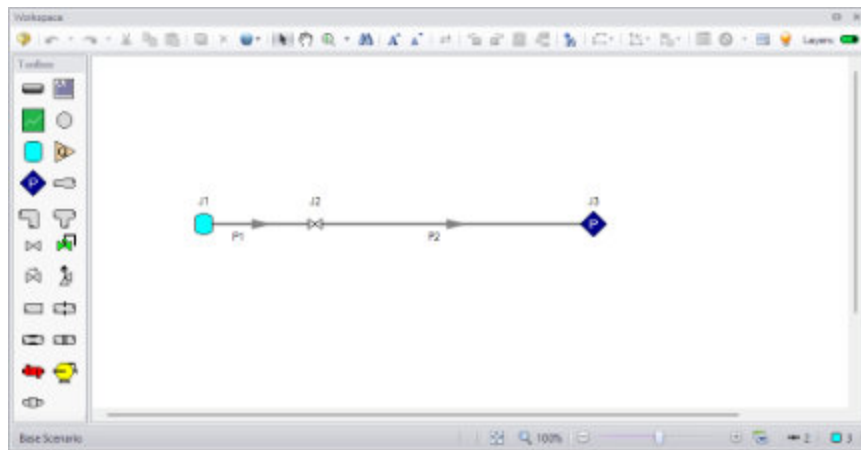

Figure 2.4f All pipes and junctions placed
- **Activate the Pipe Drawing Tool again.** Position the cursor on the J2 Valve, then press and hold the left mouse button. Stretch the pipe across to the J3 Assigned Pressure junction, then release the mouse button. All objects in the model should now be graphically connected as they are in Figure 2.4f.